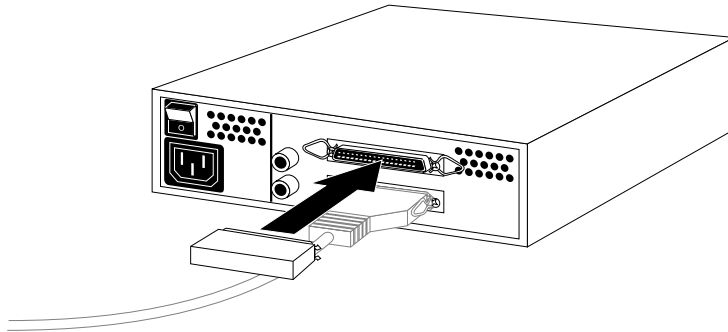

Figure 5-10 Attaching a Terminator to an External SCSI Device
4. Gently place the terminator you received with the device onto the open SCSI connector on the back of the last device on the daisy-chain, as shown in Figure 5-10, and secure the clips on each side of the terminator.